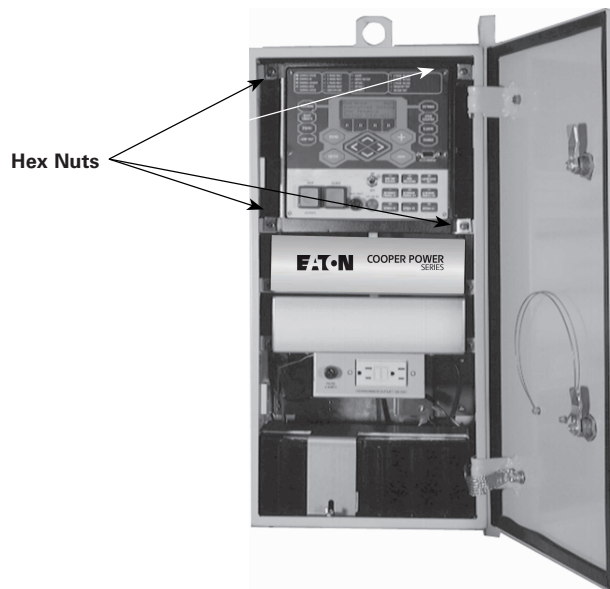

Figure 2. Location of the four mounting nuts on the front of the Form 6 pole mount control.
- D. Remove the 7/16 inch grounding nut and lock-washers located on the bottom of the control module (Figure 2).
2. Remove the TB1 terminal block strip from the back of the module (Figure 2).
2. Remove the TB3 and TB4 terminal block strips or cover plate from the back of the control module (Figure 2).
2. Remove the TB5 and TB6 terminal block strips from back of the control module (Figure 2).